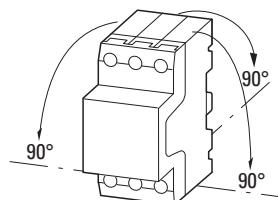

Figure 7: Approved mounting positions of the PKZM0-.../XTPR...BC1NL and PKZM0-...-T/XTPT...BC1NL motor-protective circuit-breakers
- ▶ Mount the motor protective circuit breaker only as shown in → Figure 7.